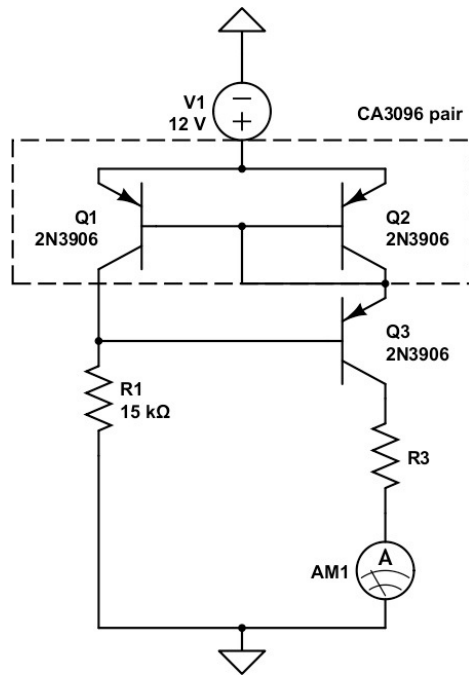

Figure 30: Current mirror II
- The Wilson Mirror in Figure 30 beats the variations in output current due to the Early Effect. Watch the variation in output current as you vary the load. How constant is the current now? What property of this circuit accounts for the improved performance?